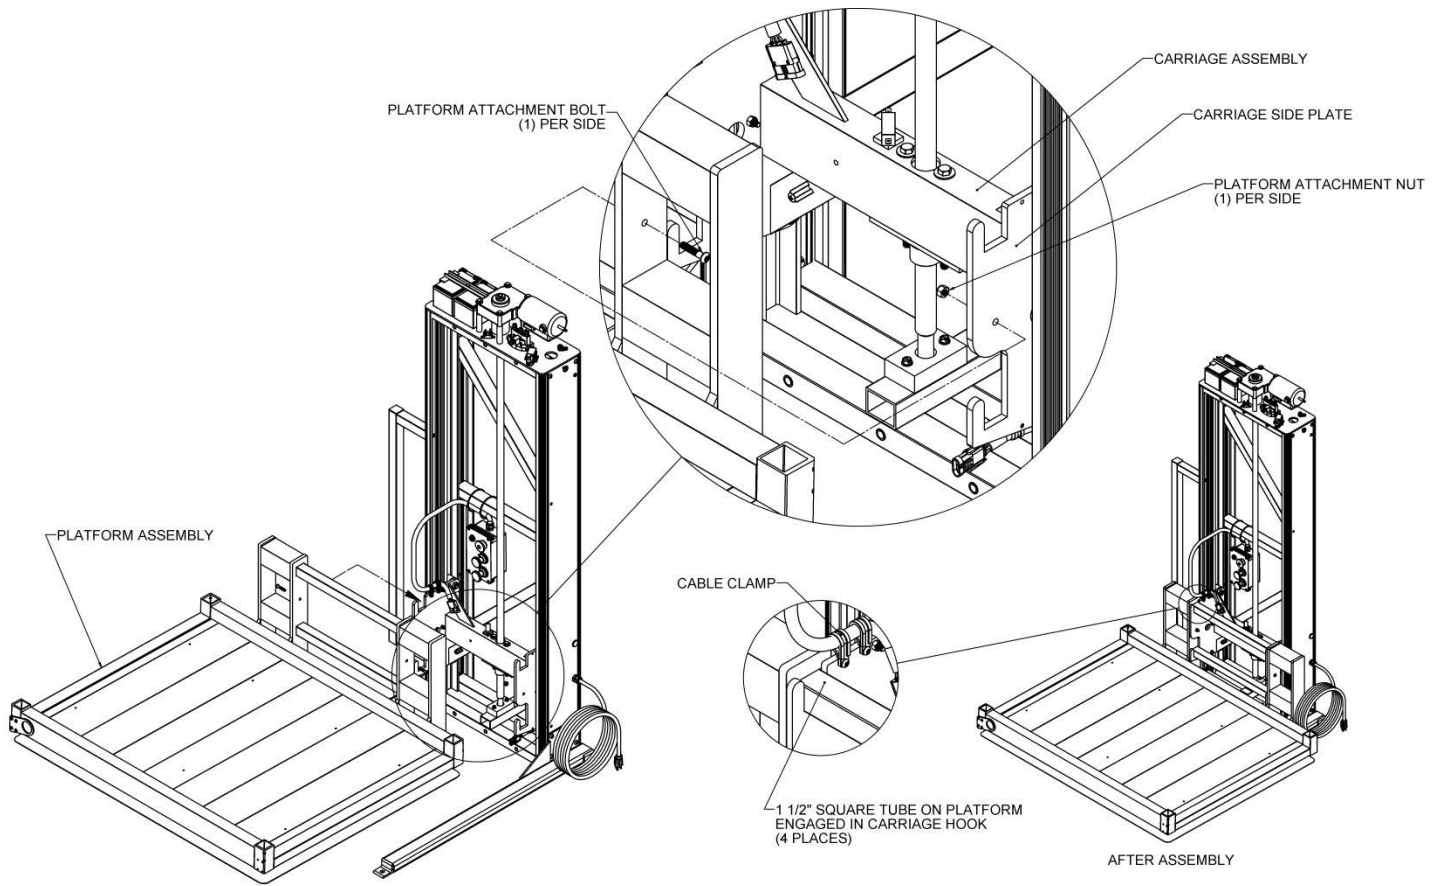

FIG. 4.2
4. Attach the platform assembly to the carriage by first removing the attachment nuts and bolts from the carriage side plates. Lift the platform assembly onto carriage engaging both 1½" square tubes on the platform to the corresponding hooks in the carriage and reinstalling the nuts and bolts to secure the platform assembly to the carriage (FIG. 4.2).